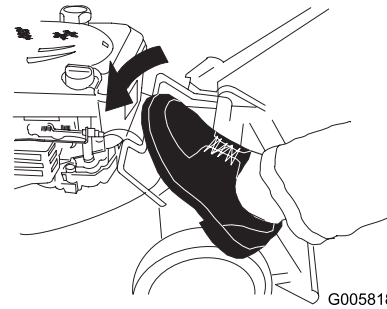

Figure 45
2. Step on the handle release lever (Figure 45).